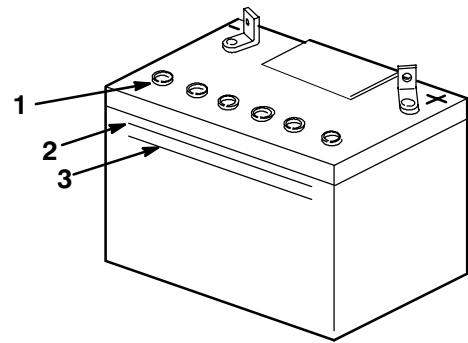

Figure 39
2. Look at the side of the battery. The electrolyte must be up to the "UPPER" line (Fig. 39). Do not allow the electrolyte to get below the "LOWER" line (Fig. 39).
3. Remove the vent caps from the battery (Fig. 39).
4. Slowly pour distilled water into each battery cell until the level is up to the "UPPER" line (Fig. 39) on the battery case.
5. Wait five to ten minutes after filling the battery cells. Add distilled water, if necessary, until the electrolyte level is up to the "UPPER" line (Fig. 39) on the battery case.